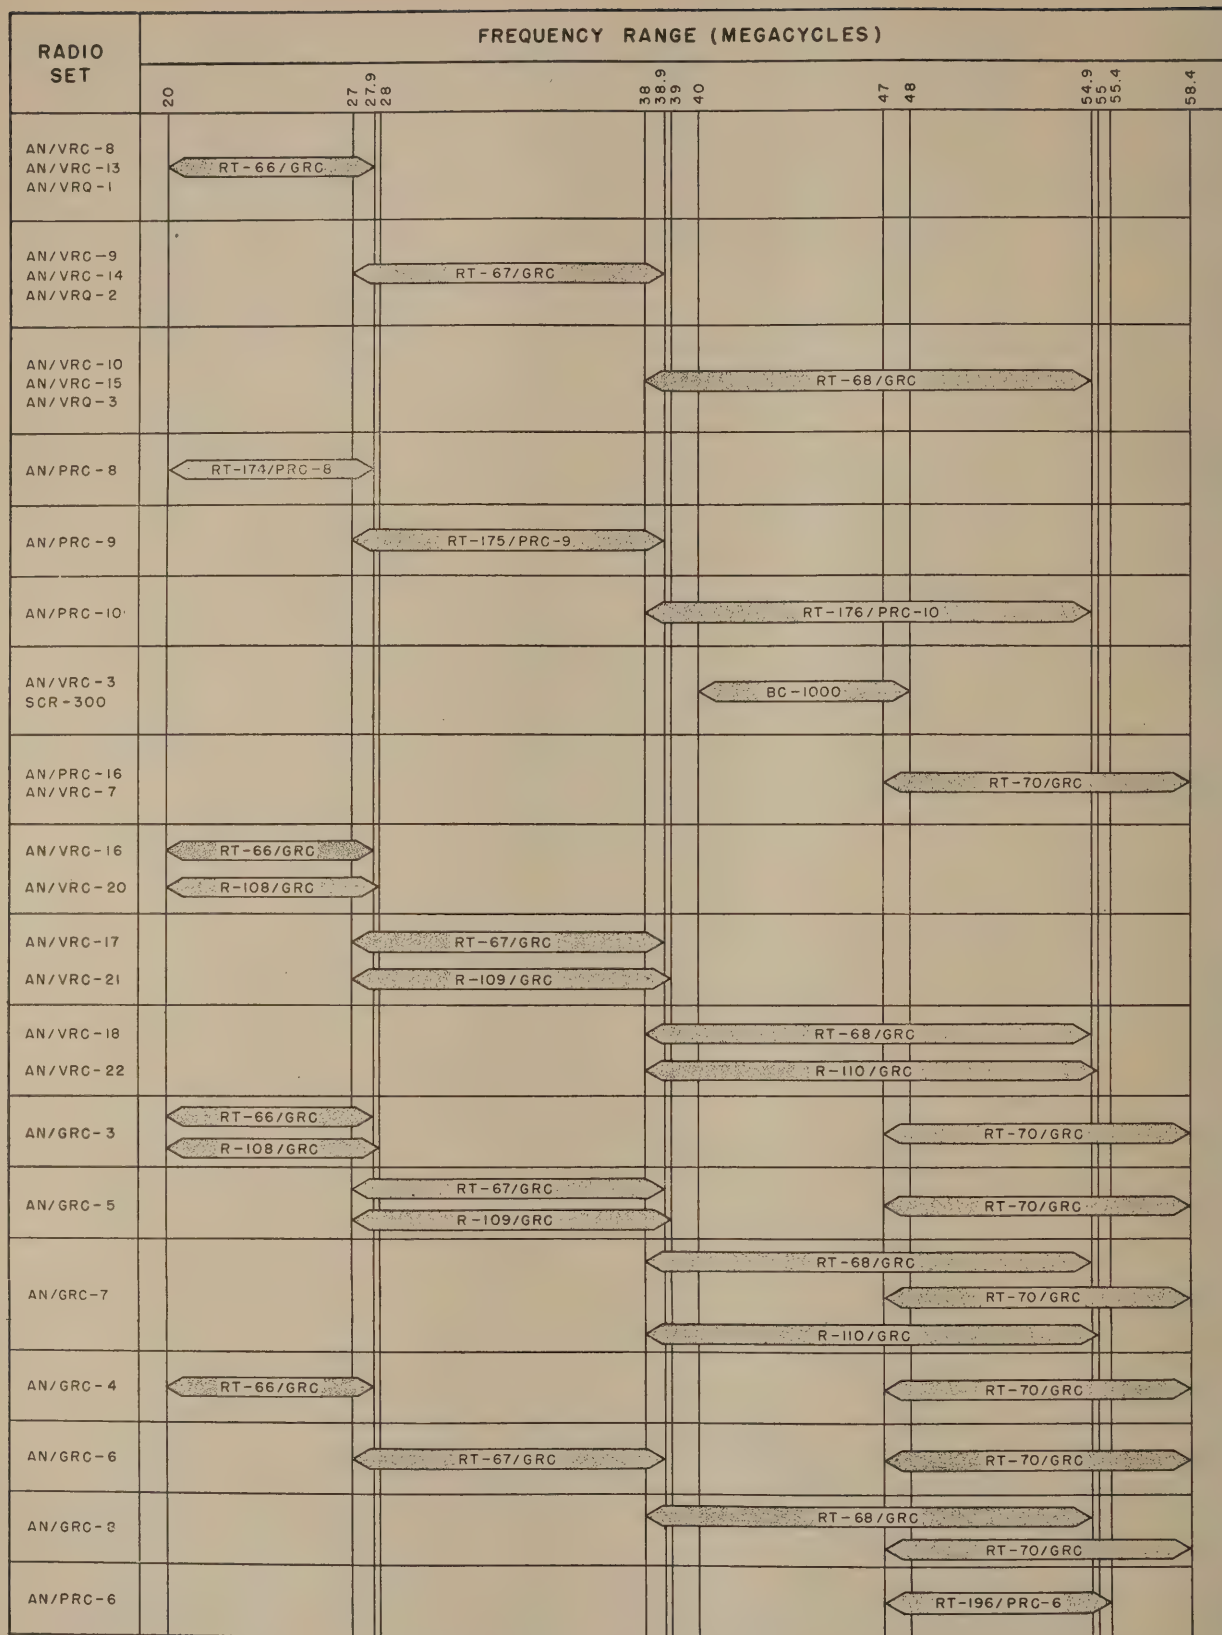

Figure 2. Frequency spectrum chart.
lar receiver-transmitter to cover a particular frequency range (fig. 2) constitutes the major difference among the radio sets. Minor differences, dependent on frequency range, are indicated in the table of components (par. 6).
g. The term "auxiliary receiver" is used to refer collectively to Radio Receivers R-108/GRC, R-109/GRC, and R-110/GRC, which are units of Radio Sets AN/VRC-20, -21, and -22, respectively. The frequency range of a particular receiver is almost identical to the frequency range of the receiver-transmitter in the radio set (fig. 2).
a. Radio Sets AN/VRC-20, -21, and -22 provide f-m (frequency-modulated) radiotelephone facilities within the frequency range of 20 to 54.9 mc (megacycles). The specific frequency range of each set, and of other radio equipment with which the sets can communicate, is indicated in the frequency spectrum chart (fig. 2). As indicated on the chart, the frequency coverage of each radio set is that of its respective receiver-transmitter and is duplicated by the auxiliary receiver, Radio Receiver R-108/GRC, R-109/GRC, or R-110/GRC, respectively.